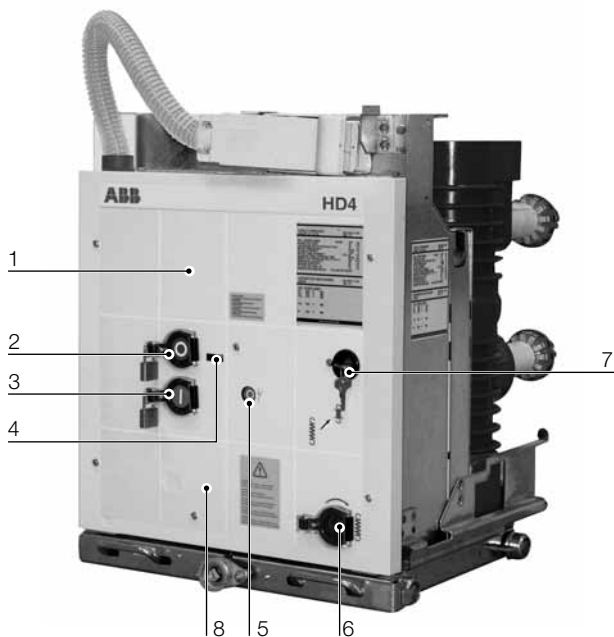

Fig. 6
6.3. Circuit-breaker closing and opening operations (fig. 6)